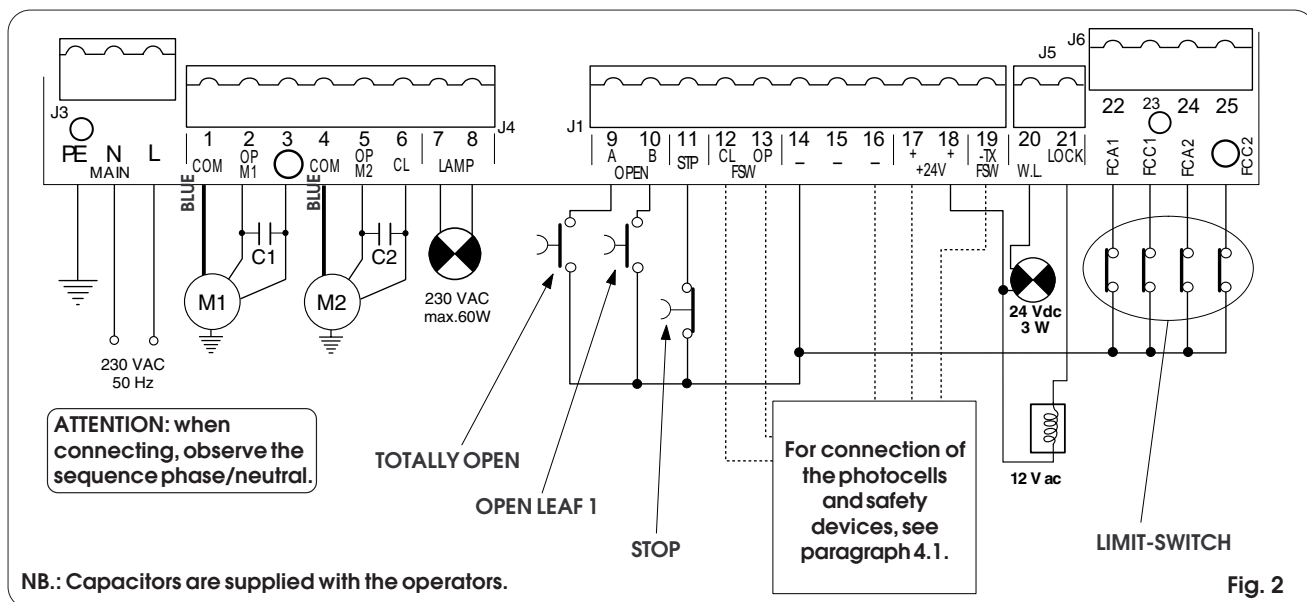

Fig. 2
- Connect the earth cable to the appropriate terminal on the J3 connector of the equipment (see fig.2).
4.2. Terminal board J3 - Power supply (fig. 2)
4.3. Terminal board J4 - Motors and flashing lamp (fig. 2)
4.4. Terminal board J1 - Accessories (fig. 2)
4.5. Terminal board J5 - Indicator-light and Electric lock (fig.2)
4.7. Terminal board J6 - Limit-switches and/or encoder (fig.2)